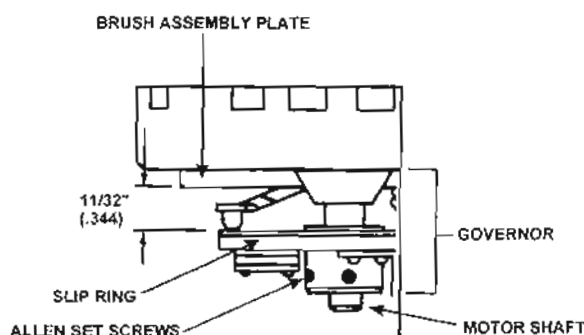

Figure 3-10. Governor brush assembly clearance.
- (10) Turn the centrifuge over to rest on its cover.
- (11) Remove the slotted screw fastening the nameplate assembly temporarily into place.
- (12) Reconnect the electrical terminal connector to the timer "L2" terminal that also connects with the motor.
- (13) Strip 3/8-inch insulation from the two black wires connecting the motor to the brake switch.
- (14) Connect the two black wires using an electrical terminal connector.
- (15) Bundle the electrical wires together and refasten them with a plastic electrical cable tie.
- (16) Position the nameplate assembly into place and reinstall the four slotted screws.
(17) Install a new brush assembly into place and fasten it to the motor housing by reinstalling the two hex nuts.
(18) Reconnect the two electrical terminal connectors while following the previously recorded wire colors and connector locations.
(19) Reinstall the governor onto the motor shaft and slightly tighten the Allen set screws.
(20) Check for a $1\frac{1}{32}$ -inch clearance between the lower brush assembly plate and the governor slip rings (fig 3-10).